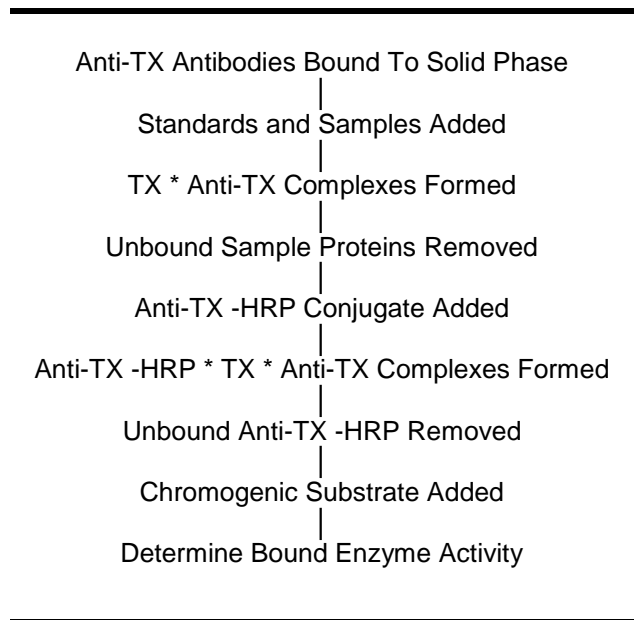

Figure 1
The principle of the double antibody sandwich ELISA is represented in Figure 1. In this assay the Transferrin (TX) present in samples reacts with the anti-TX antibodies, which have been adsorbed to the surface of polystyrene microtitre wells. After the removal of unbound proteins by washing, anti-TX antibodies conjugated with horseradish peroxidase (HRP) are added. These enzyme-labeled antibodies form complexes with the previously bound TX. Following another washing step, the enzyme bound to the immunosorbent is assayed by the addition of a chromogenic substrate, 3,3',5,5'-tetramethylbenzidine (TMB). The quantity of bound enzyme varies directly with the concentration of TX in the sample tested; thus, the absorbance, at 450 nm, is a measure of the concentration of TX in the test sample. The quantity of TX in the test sample can be interpolated from the standard curve constructed from the standards, and corrected for sample dilution.